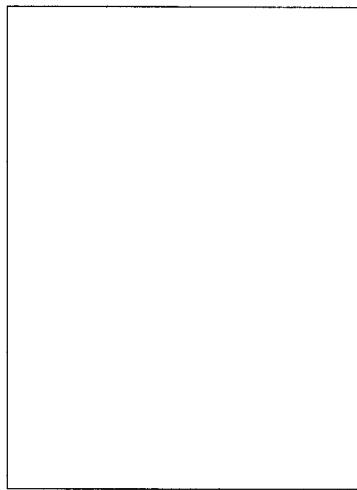

Fig. 2: Inserting the battery.
Refer to fig. 2:
1. Depress the snap hook on the battery compartment lid (1).
2. Pull the battery compartment lid (1) down to remove it from the transmitter.
4. Insert the supplied or new battery (2) into the battery compartment as shown in fig. 2.
5. Set the ON/MUTE/OFF switch (3) to ON.